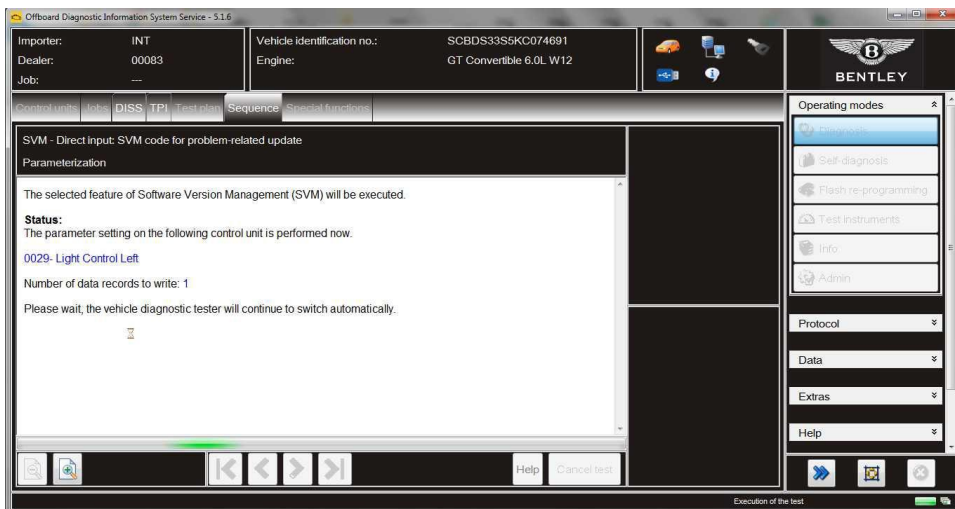

Figure 3
5. The software of the left headlight control module will then be reprogrammed, (Figure 3).